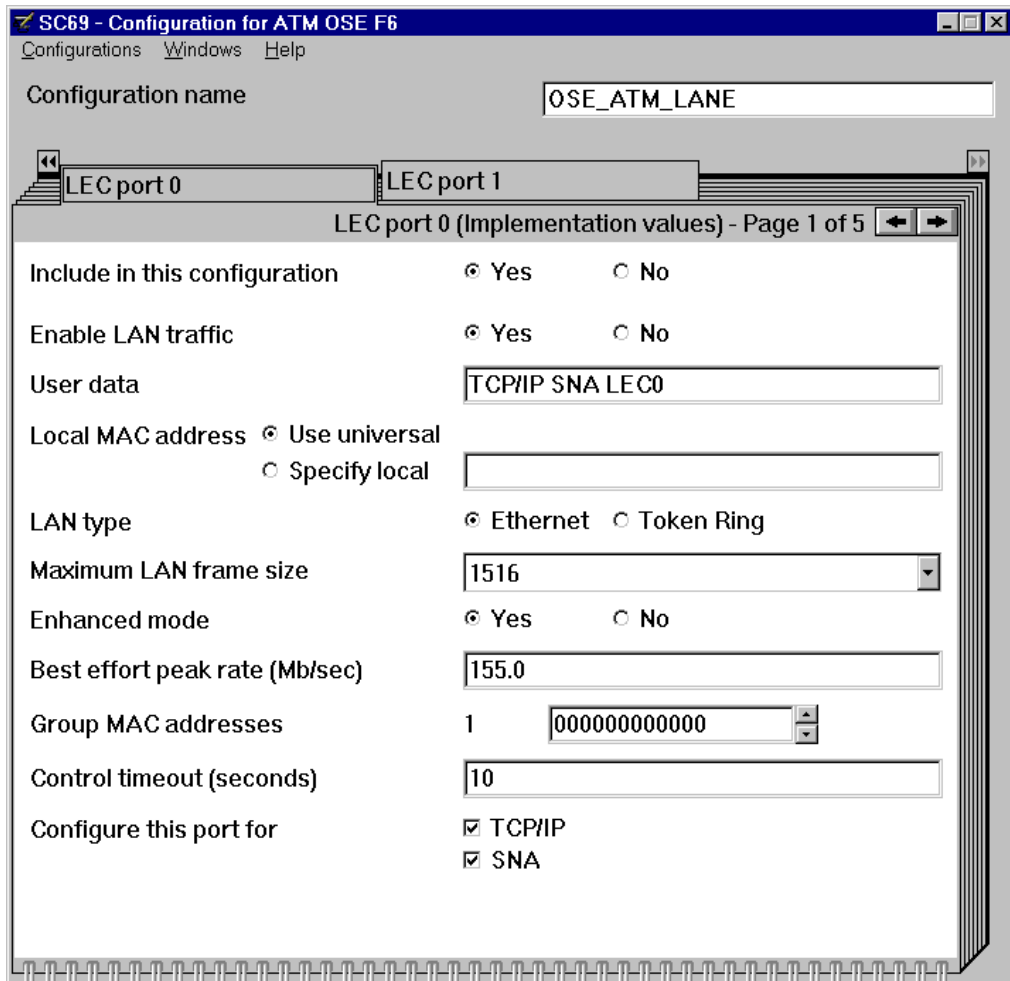

Figure 9-5 LEC port 0 (implementation values)-Page 1 of 5
10. The panel ATM LEC port 0 (Implementation values) - page 1 of 5 is displayed, as shown in Figure 9-5 on page 122.